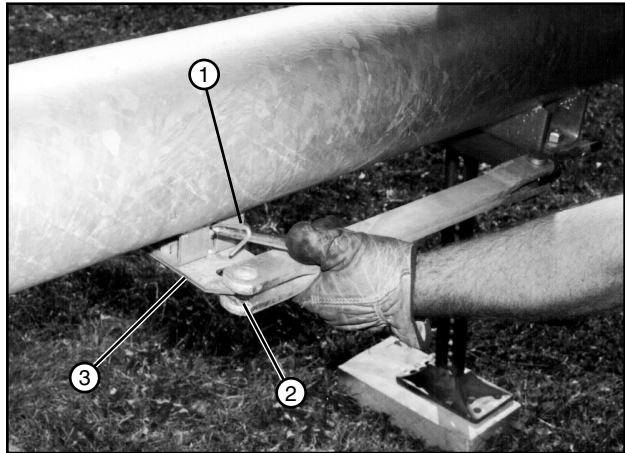

Figure 60-1 1. Carrier Spring 2. Tow Link Bar 3. Tow Link Carrier
1. Lift the carrier spring and release the tow link bar from the tow link carrier. See figure 60-1.